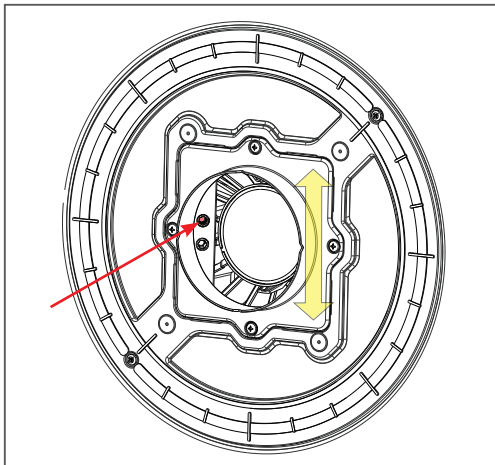

fig. 24 (tilt)
4. Using the 4 mm hex tool use the tilt control to aim the emitter (see fig 24).